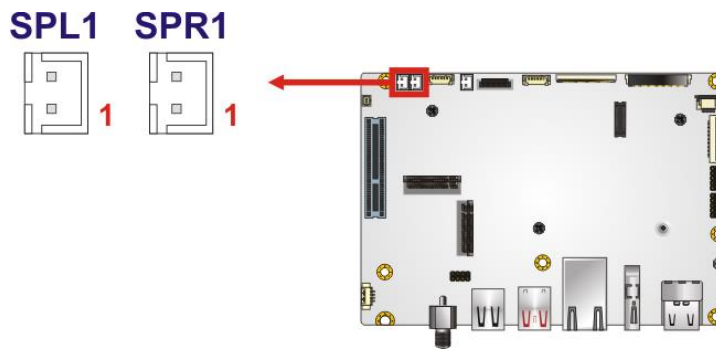

Figure 3-13: Speaker Connector Locations
- CN Location:** See **Figure 3-13**